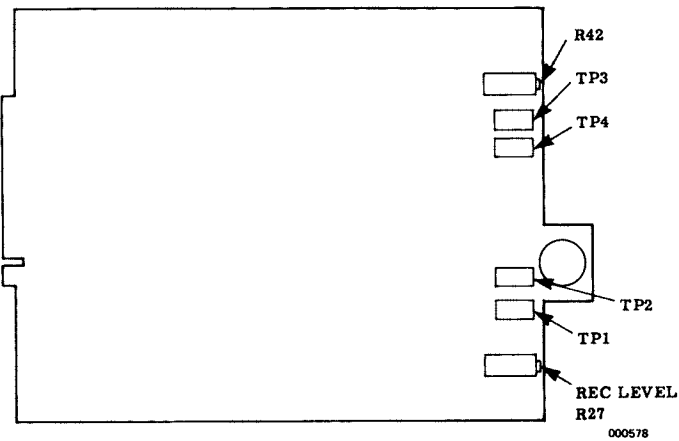

Figure 3-7. Direct Record Amplifier Adjustments
- d. Adjust the REC LEVEL control on the direct record amplifier until the output is equal in amplitude to the STANDARD OUTPUT LEVEL (see Figure 3-7.)